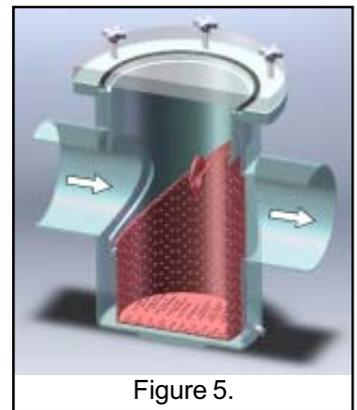
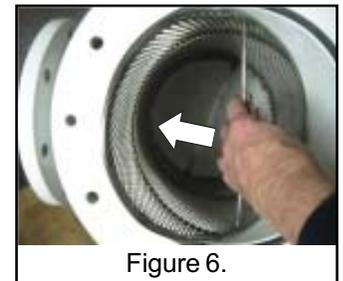

Figure 5.
Figure 6.
7. Replace the basket making sure it is properly oriented. Insert the basket into the strainer body so that the flow direction is into the open basket, see Figure 5. Do not force the basket. It fits only one way against the diagonal ledge. Verify that the handle target is perpendicular to the incoming flow, see Figure 6.